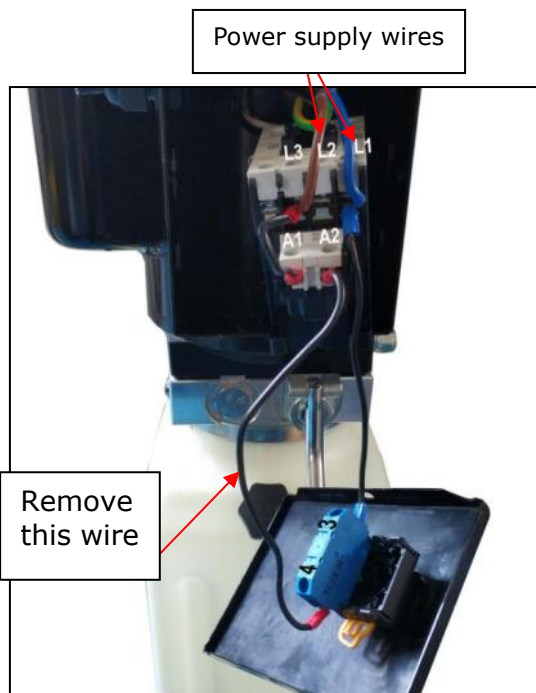
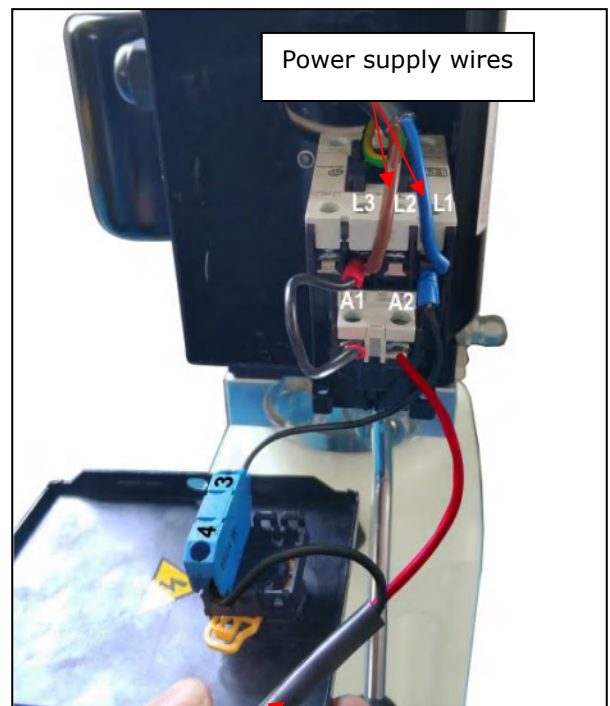

Fig. 45
Fig.46
- Connecting limit switch wire: remove the short wire connecting terminal 4# of control button and A2 of AC contactor firstly (See Fig.45), then according to the wire number of the limit switch, connect them respectively to terminal 4# of control button and A2# of AC contactor. (See Fig. 46)